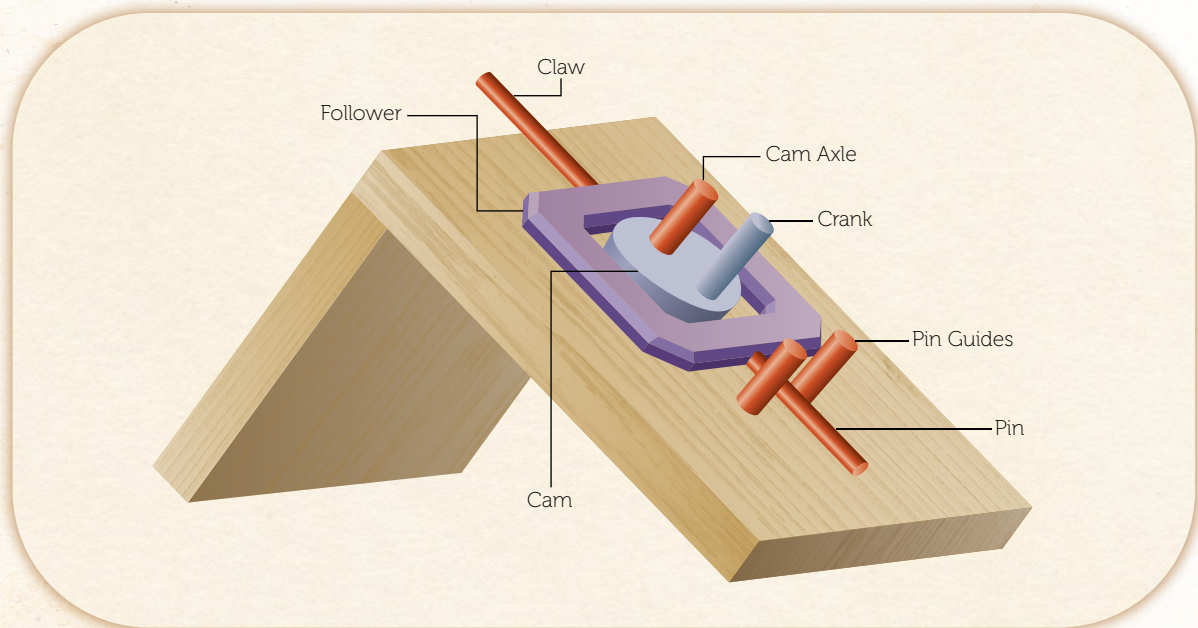

Figure 7.9: Assembling the mechanism
2. Place the cam follower over the cam, making sure the pin is located between the two pin guides as shown in Figure 7.9.